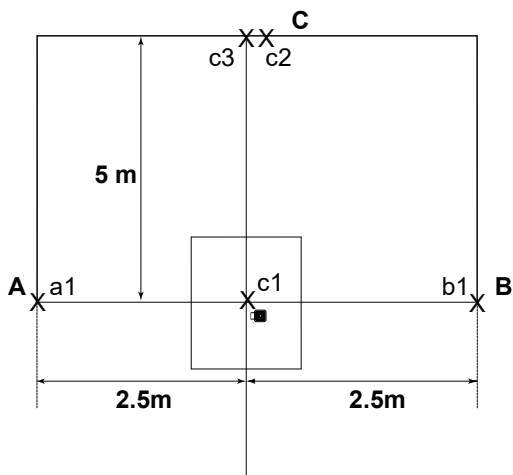

Figure 8
- 6) Mark as **c3** the center of the side vertical beam on wall **C**, at the same height as point **c2**. (see figure 8 ).